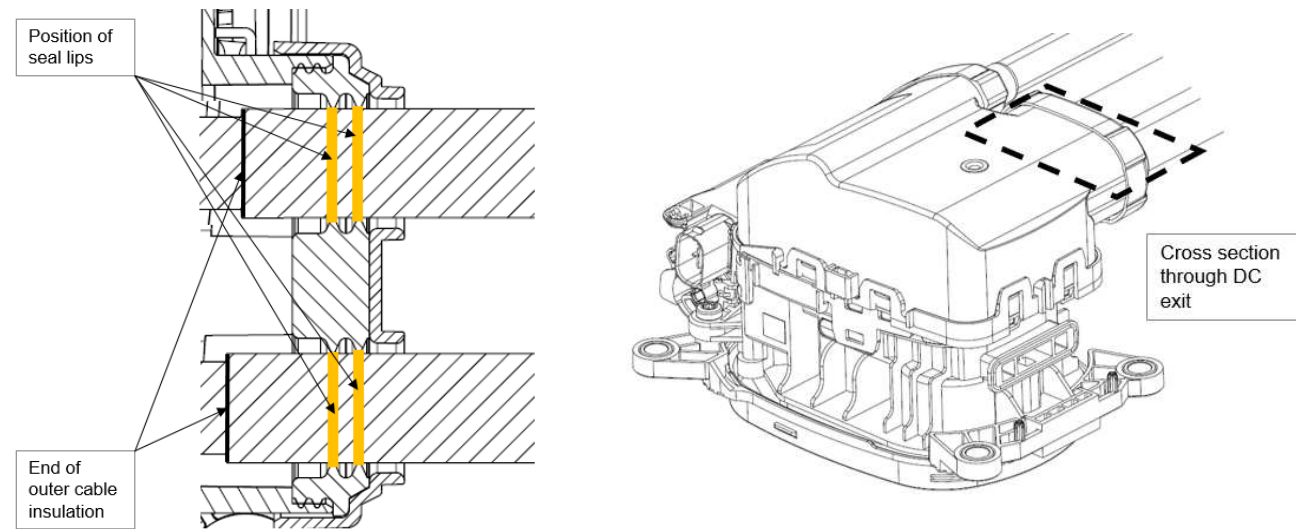

Figure 38a – DC seal lips
Move the FAMILY SEAL DC 2366539-1 into position in the CABLE EXIT CABLE EXIT LEFT 1-2303200-1 OR RIGHT 1-2303200-2, see figure 38a.
Push the COVER CABLE SEAL 2366667-1 over it and snap it on the CABLE EXIT COVER LEFT 1-2303200-1 OR RIGHT 1-2303200-2. Ensure that all four hooks are correctly engaged (Quadro audible click), see figure 38a.
**ATTENTION:** Ensure that the DC power cables are well positioned in the FAMILY SEAL, that all seal lips are safely placed on the outer isolation of the cables. (Figure 38a)